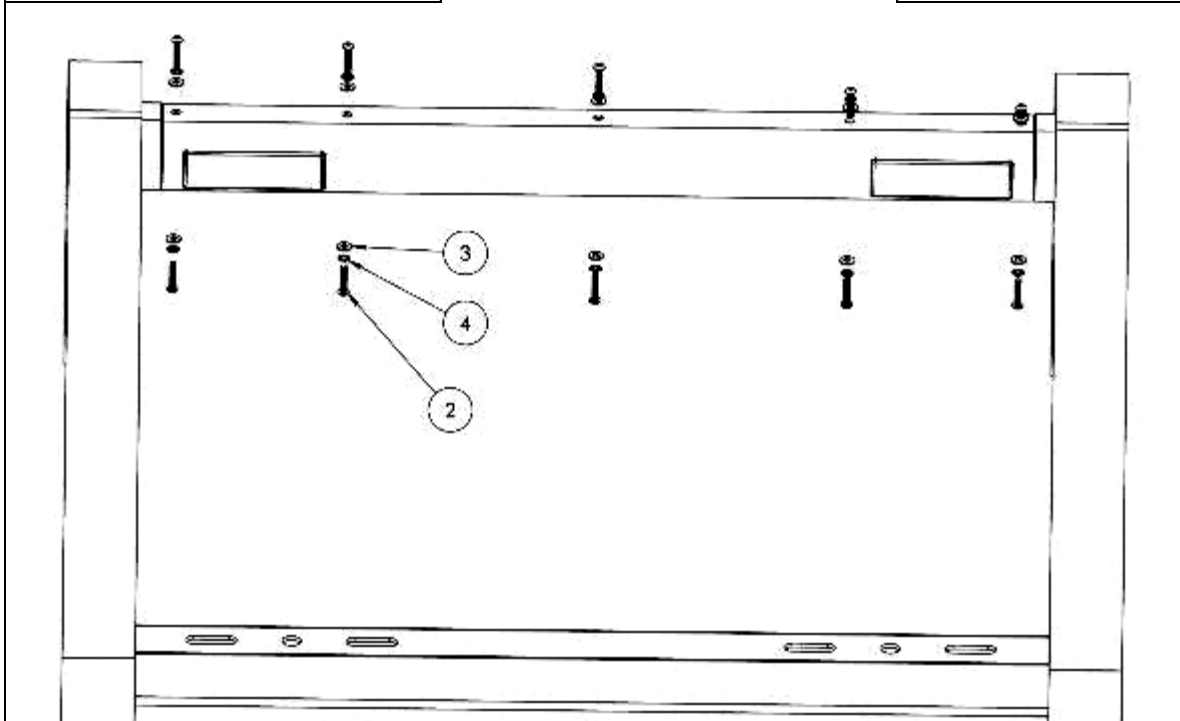

**Figure 8 - Top Channel
5. Install the Top Channel as shown in **Figures 8 and 9**. The small edge notches (XT4 only) should face down.